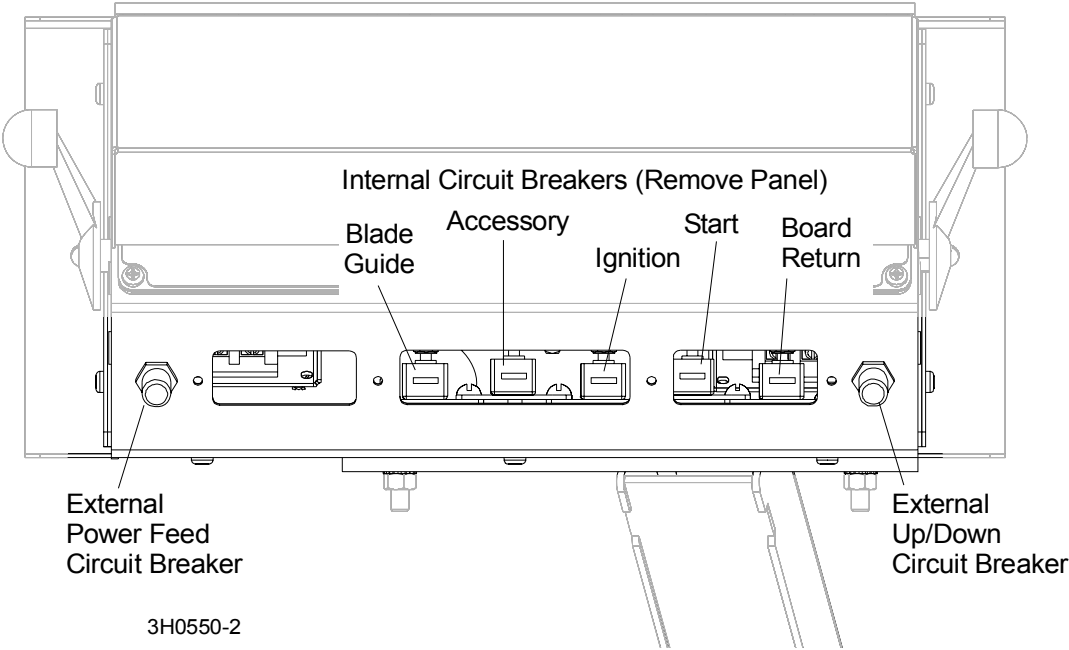

FIG. 4-5
**See Figure 4-5.** The power feed and up/down breakers are externally mounted at the front of the control box. The blade guide, accessory, ignition, start, and board return breakers are located inside the control box. Remove the circuit breaker panel from the control box to access the internal breakers.